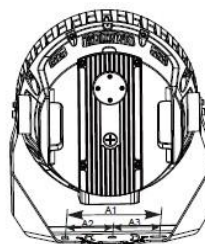

Figure 1
1. Mark the pilot holes using A1, A2, A3 distances as shown in Figures 1 and 2.